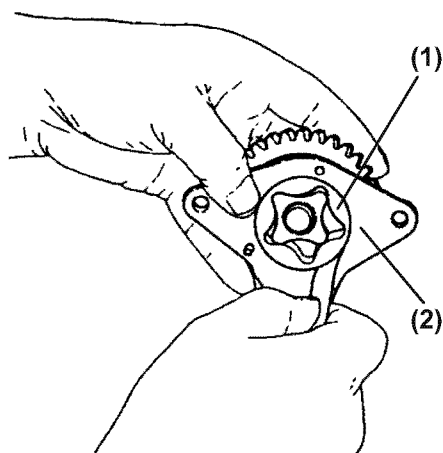

Figure 9-17
Inspect the outside diameter clearance of the outer rotor. To inspect this, insert a feeler gauge between the outer rotor (**Figure 9-17, (1)**) and the lubricating oil pump body (**Figure 9-17, (2)**).